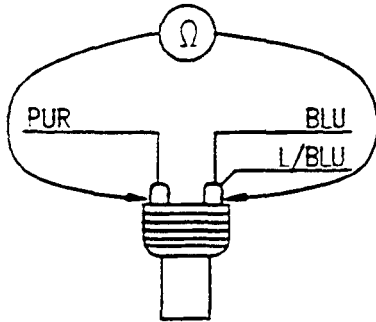

Figure 6-38. Compartment Thermal Switch
6. Refer to Figures 6-38 and 6-39, and connect the ohmmeter leads across the compartment thermal switch.